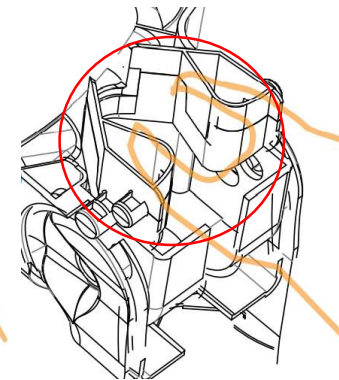

Figure 2.3
- C. Move the hose out of the way and remove hinge locking pins by pinching them together and pulling them out (Figure 2.3)